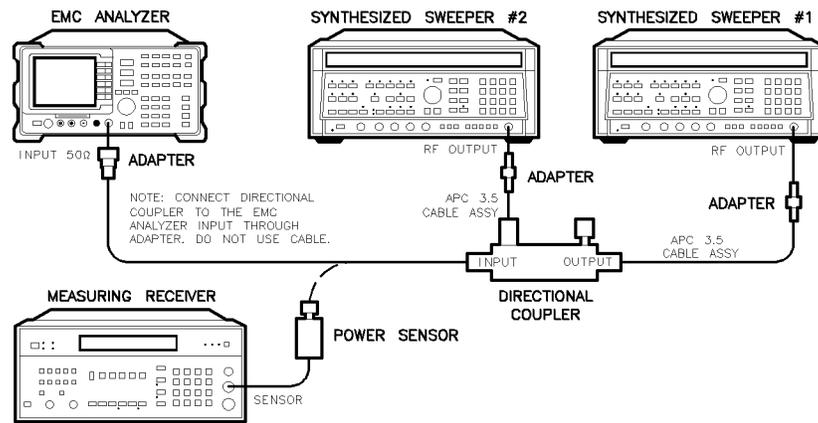

Figure 2-46.
10. Connect the equipment as shown in Figure 2-46 with the input of the directional coupler connected to the power sensor.